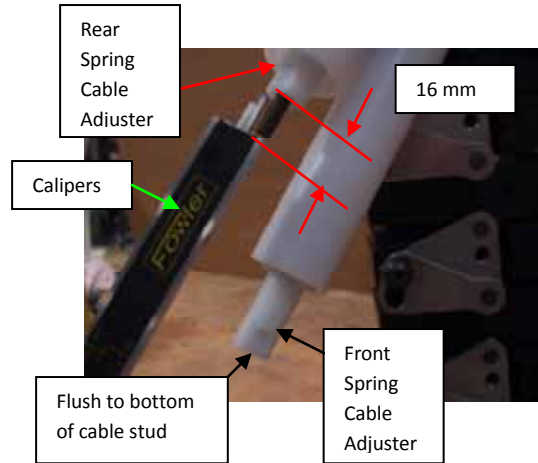

Figure 72 - Front Spring Cable Adjuster
2. Adjust spring cable adjuster (Figure 72) on front spring until the bottom is flush with the end of the spring cable stud.
Measurement is applied using a pair of digital calipers (Figure 72). Record the resulting dimension for later reference.